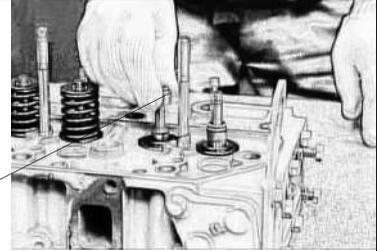

Fig 5-15 Valve Oil Seal
2.3 There are valve oil seals on valve stem which keep over oil into valve guide pipe. Make valve oil seals go into the correct position (see Fig 5-15).